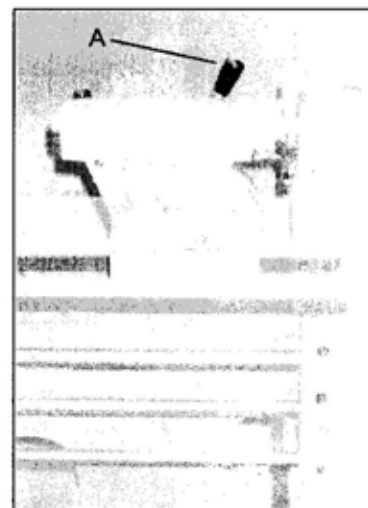

Fig. 23
1. Lower handle (A, Fig.23) to the unlocked position.